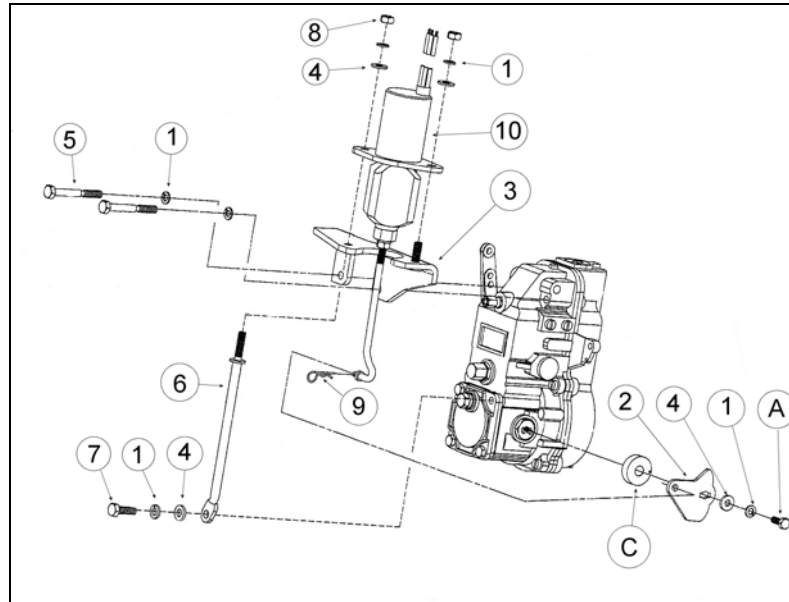

Figure 3. Parts View
Refer to **Figure 3**.
1. Install the spring cover (C) removed previously.
2. Install the new run/stop lever (2). Note the proper orientation of this piece as shown in **Figure 3**.
3. Install the lockwasher (1), flatwasher (4), and screw (A) that was removed previously. Torque screw to 5-7 Nm (3.5 to 5 ft-lb).
4. Install the bracket (3), screws (5), and lockwasher to the pump. Torque screws to 5-7 Nm (3.5 to 5 ft-lb).
5. Install support rod (6) and insert the threaded end through the hole on the bracket.
6. Assemble the bolt (7), lockwasher, and flatwasher onto the support rod as shown in **Figure 3** and torque the bolt 5-7 Nm (3.5 to 5 ft-lb).
7. Slip the hook-shaped end of the solenoid linkage (the length setting is factory preset) through the hole in the new run/stop lever. Attach with spring clip (9). Position solenoid flange holes over the studs on the bracket. Secure solenoid with flatwashers, lockwashers, and M6 hex nuts (8).